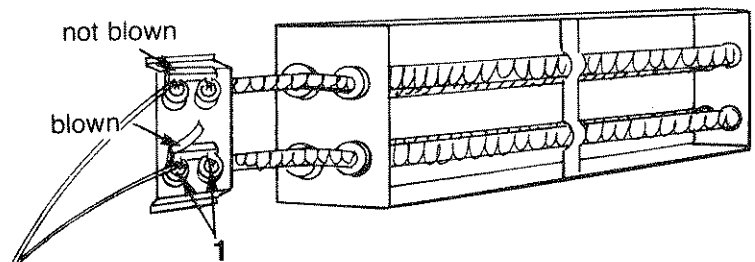

FIGURE D6
6. Visually check the heat links. If one or both of the heat links have blown, both of the heat links must be replaced. See Figure D6.
7. Loosen the two nuts (1) that hold a heat link. Remove the heat link.